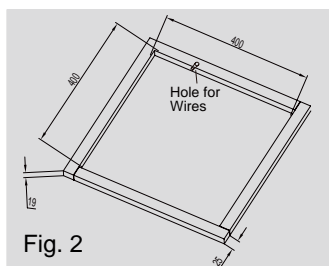

Fig. 2
If a roof vent opening is not used,a new opening(see Fig.2)will be cut into the vehicl roof.A matching opening will also have to be cut into the interior vehicle ceiling,be careful when cutting the ceiling opening because if the ceiling opening is carpeted,snagging could occur. After the opening in the roof and interior ceiling are the correct size,a framed support structure must be placed between the exterior roof top and interior ceiling.The reinforced framed structure must follow the follwing guidelines:
2.It must be capable of holding the roof outer surface and interior ceiling apart and supporting them, so that when the roof top air conditioner and ceiling assembly are bolted together,no collapsing occurs. A typical support frame is shown in Fig. 2.